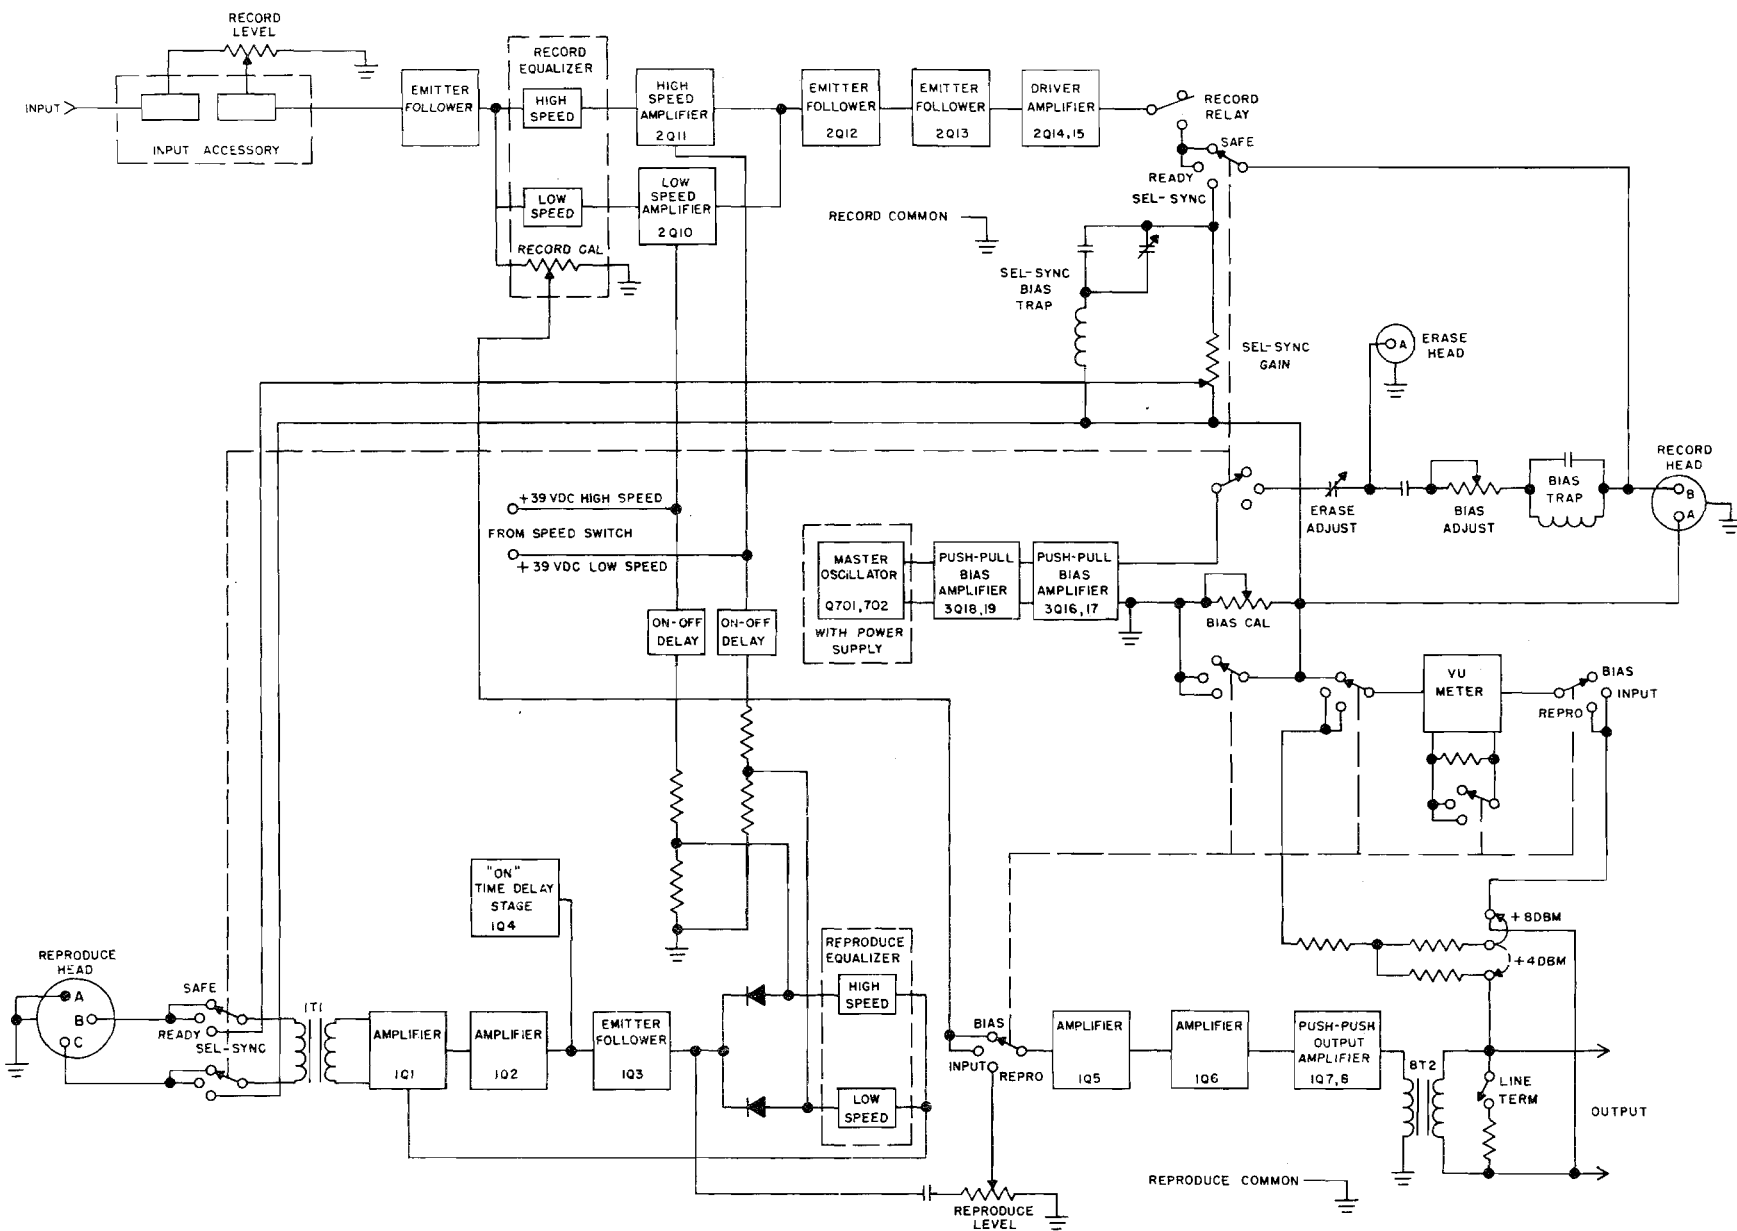

FIGURE 5-1
5.2.1 Power Supply, Figure 5-1